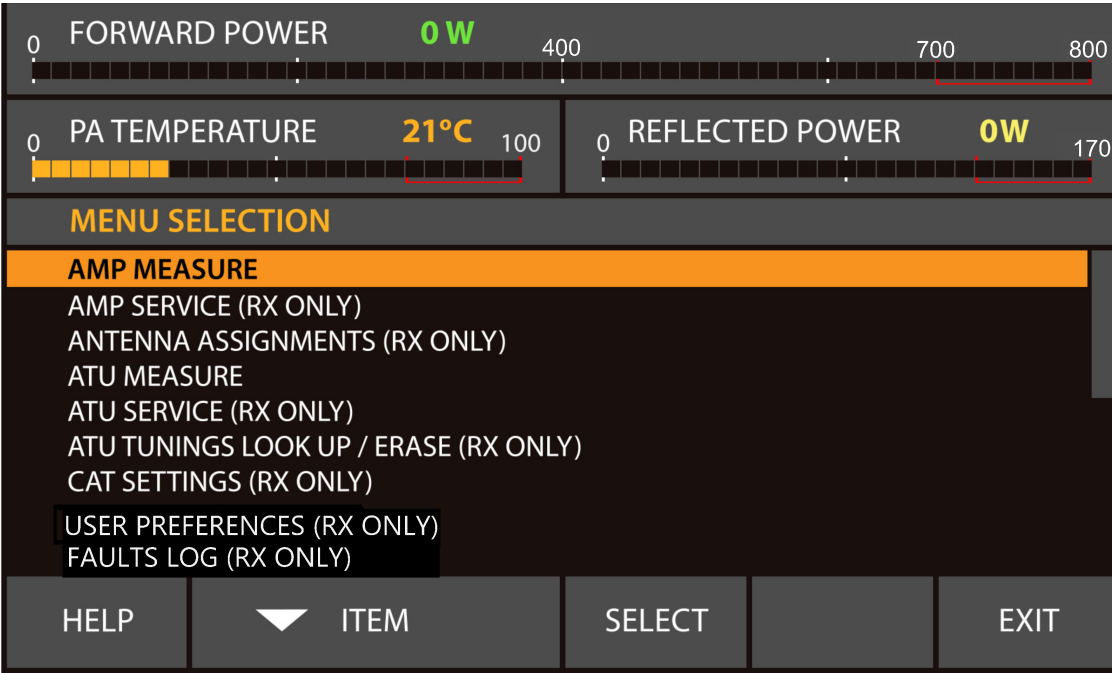
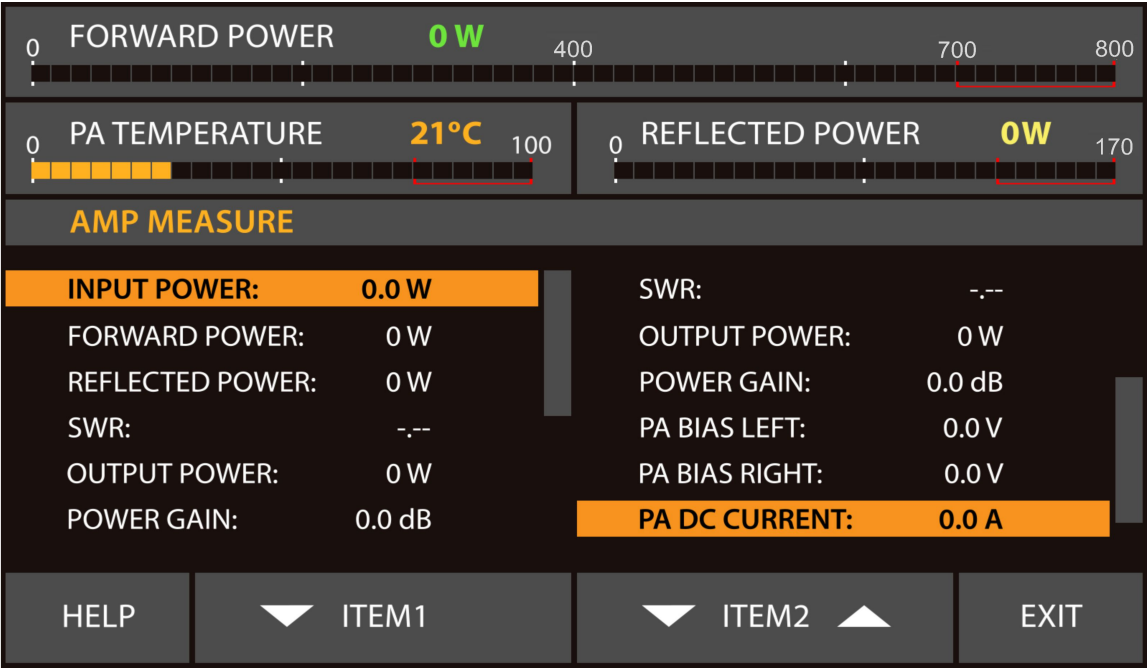
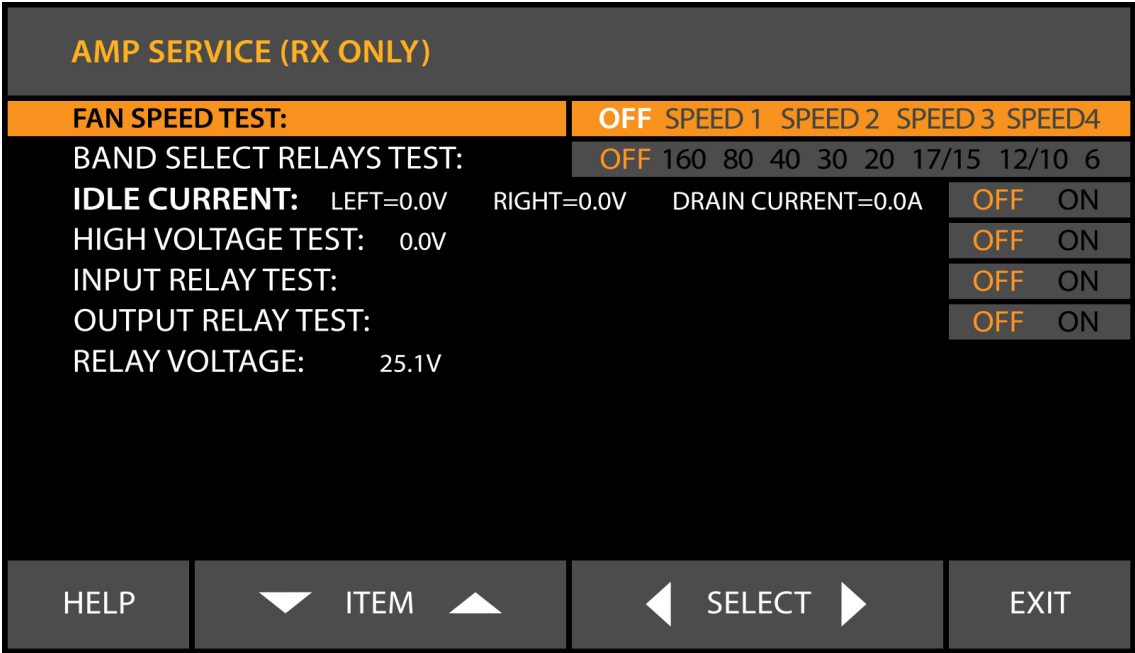

Fig. 5 - MENU SELECTION
Fig. 5-1 Menu “Amplifier measurements” – AMP MEASURE
Fig. 5.2 Menu “Service functions in the amplifier” – AMP SERVICE
Access to the Operate mode can be locked in the AMP SERVICE menu, the OPERATE ACCESS option (S. 5-2 and Fig. 5-2).
By pushing the MENU button (the rightmost) the user invokes the menu selection screen (Fig. 5). Each menu can be selected by the ITEM (up and down) buttons and SELECT.
The menu AMP MEASURE (Fig. 5-1) is accessible from the MENU SELECTION screen (Fig. 5) in all modes. 11 parameter values be observed continuously.
The amplifier service menu (Fig. 5-2) is accessible from the MENU SELECTION screen (Fig. 5) at RX mode only.
The inactive functions are greyed out and the active are red. When leaving a function submenu, it is turned off and deactivated automatically. At pressing the EXIT button all service functions are turned off, and the MENU SELECTION screen comes back (Fig. 5). At consecutive pushing of the EXIT button, the basic screen returns (Fig. 3-2).
The CAT settings are accessible only in RX mode – Fig. 5 and 5-3. The item is selected by the ITEM buttons (up and down). The value is set with the SELECT buttons (left or right).
In order to confirm the selected action the operator must push the ACTION - left (YES) button once more. After restoring the default settings, the control will return to the MENU SELECTION screen - Fig. 5. If the ACTION – right (NO) button is pressed, the “NO” is selected again, and the control will not leave the current position. At pressing the EXIT button in this position, the control leaves this menu without changing anything and returns in the previous window (the MENU SELECTION screen – Fig. 5).